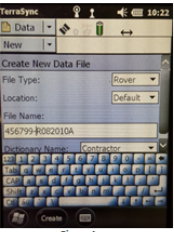

Figure 1.
2. Click on **Status** and select **Data** in the top left drop down menu to create a new data file. This will bring up a screen similar to Fig. 1.